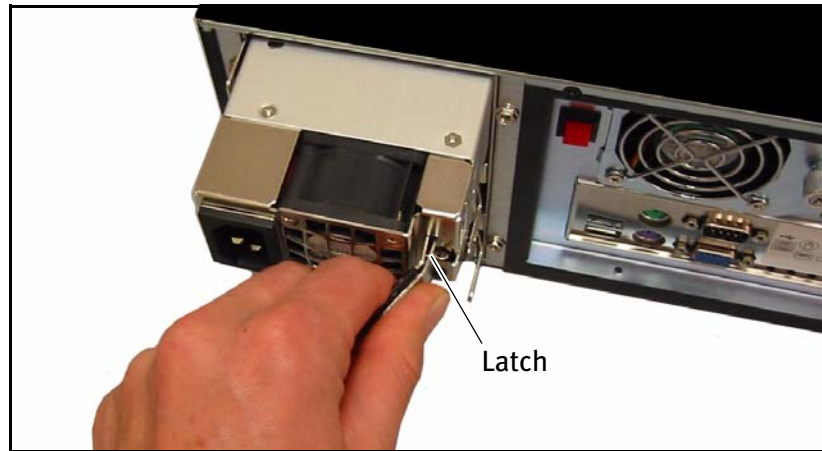

Figure 3 Remove the power supply.
4. Squeeze the latch, then pull the power supply straight out of the chassis, as shown in Figure 3.